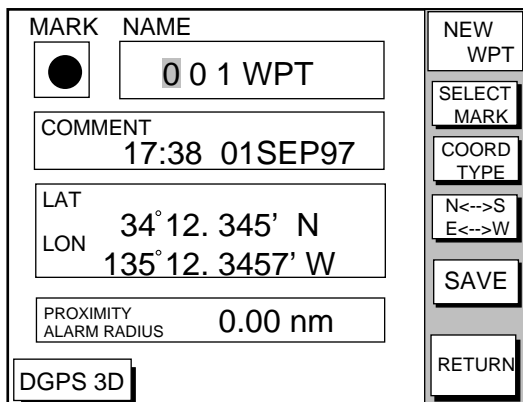

Figure 5-5 Waypoint window
5. Press the soft key NEW WPT. The screen should look something like the one shown in Figure 5-5.